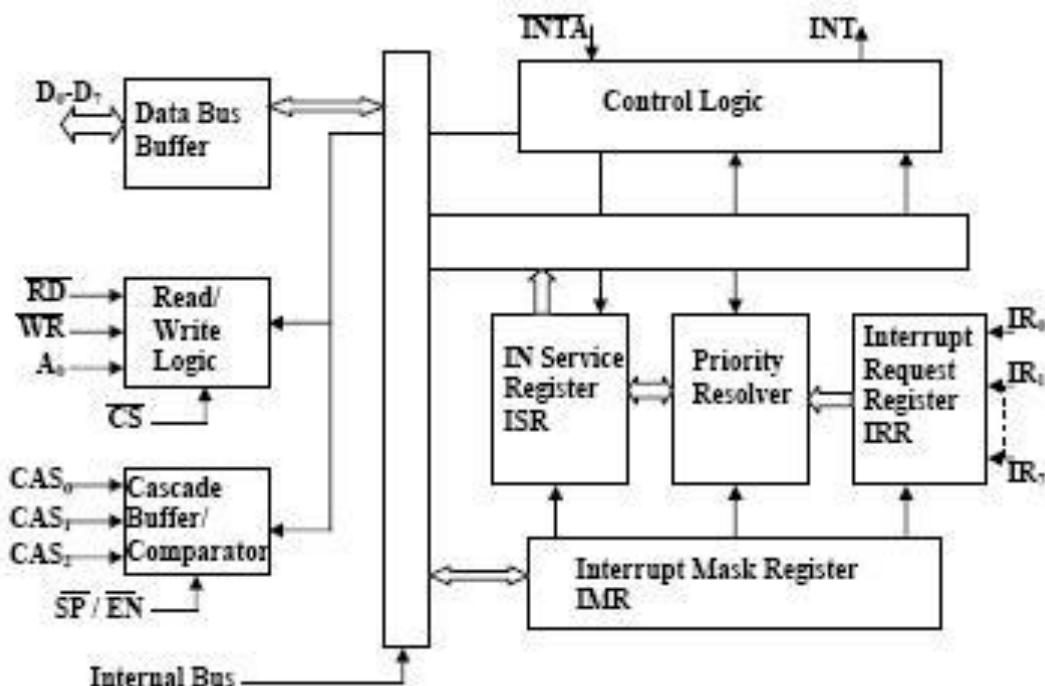

Fig:1 8259A Block Diagram
- The architectural block diagram of 8259A is shown in fig1. The functional explication of each block is given in the following text in brief.